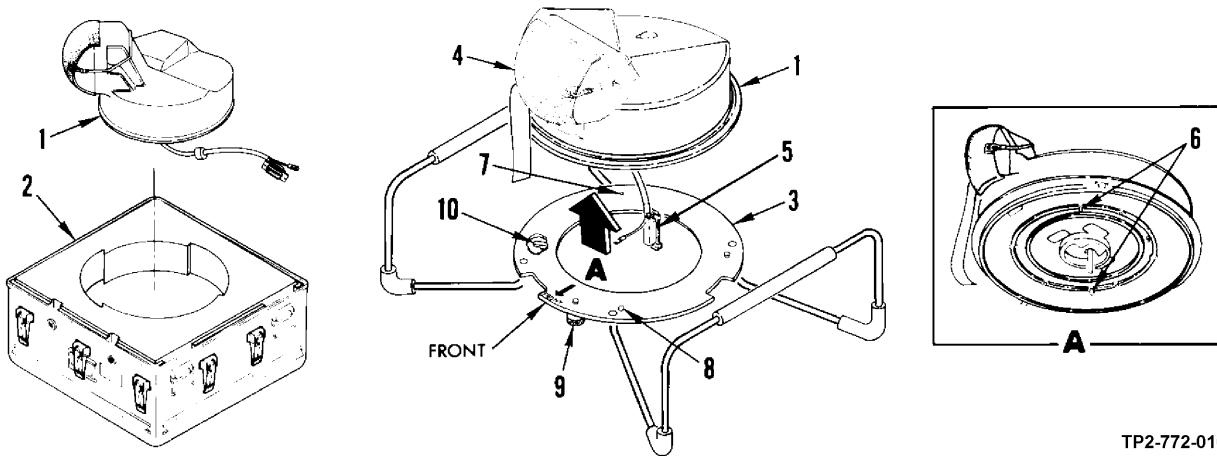

Figure 3-6. PNVS Turret Installation on PNVS Holding Fixture
- (3) Install PNVS turret assembly on PNVS holding fixture as follows:
- (a) Carefully remove turret assembly (1, figure 3-6) from container (2).
- (b) Position turret assembly over turret holding fixture (3) with shroud window and cover (4) located directly over the word FRONT stenciled on holding fixture.
- (c) Slowly lower turret assembly while ensuring that cable connector (5) feeds through center of turret holding fixture.